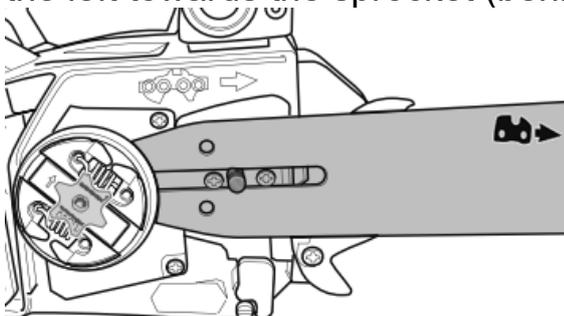

Fig.8
5) Place the slot in the guide bar over the bolts. Ensure to fit the guide bar with the saw chain "cutter" symbol at the top of the bar. Push the guide bar to the left towards the sprocket (behind the clutch) (Fig.8)